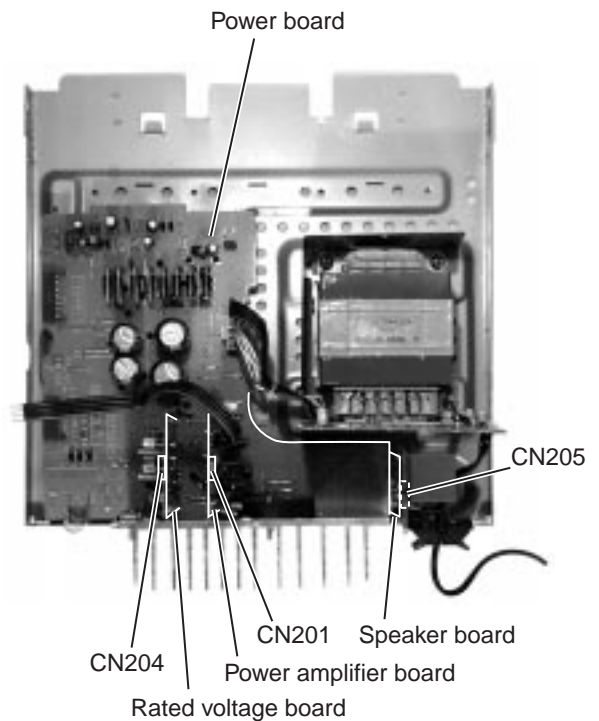

Fig.25
■ Removing the Speaker Board (See Fig.25)